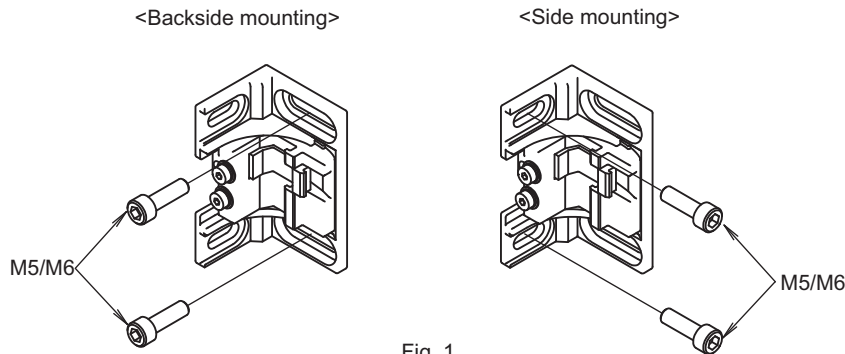

Fig. 1
1. Securely tighten the screws to fix the Free-Location Bracket to the mounting position of the wall surface. (Fig. 1)